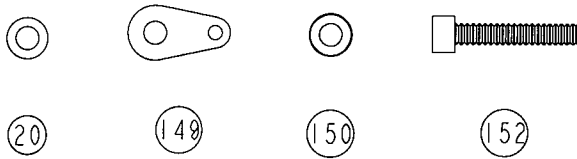

Fig 65.
Step 10. Slightly bend the throttle return spring eyelet (149) as shown in figure 65. Place a studded ball washer (20) over the four 4-40 x 5/8" cap head screws (152). Insert a 4-40 x 5/8" cap head screw (152) through the three holes in the engine as illustrated. Place the bent throttle return spring eyelet (149) over a fourth 4-40 x 5/8" cap head screw (152) and insert it through the fourth hole in the engine as shown.
Step 11. Place an engine mount spacer (150) over each of the four screws (152). Attach the engine to the engine mounts (151) by threading the four screws (152) into the four holes shown. Do not fully tighten the screws yet.